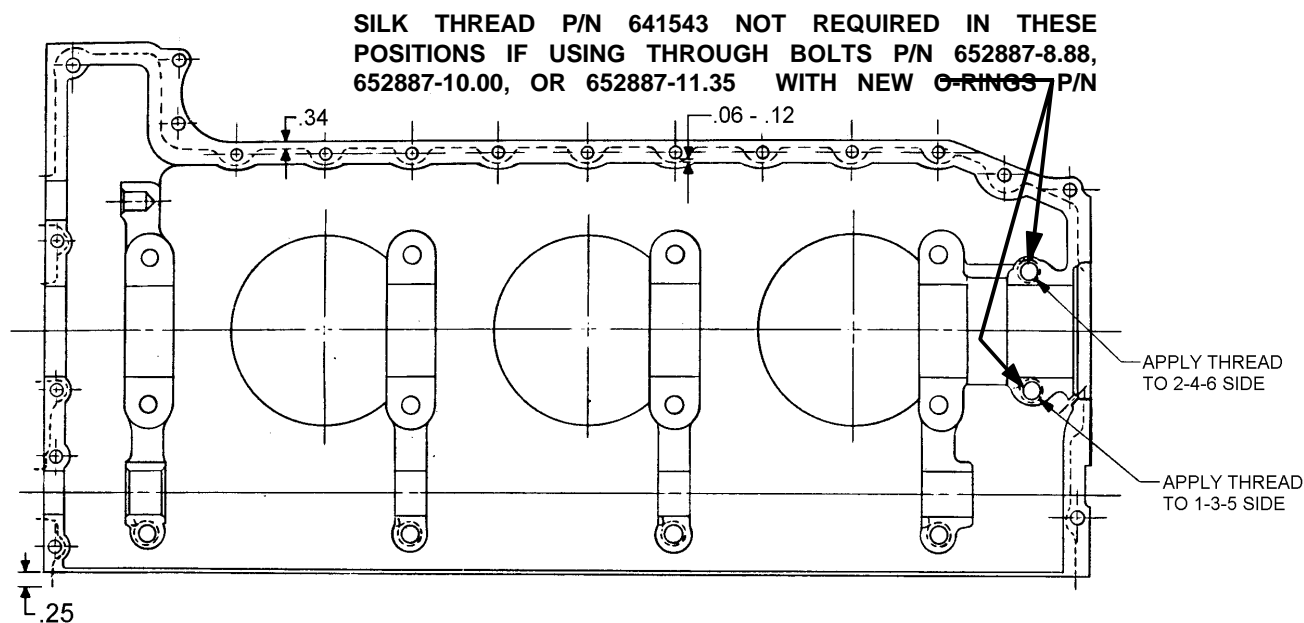

FIGURE 6. 0470, I0470, L/I0520, L/TSI0520, I0550 SANDCAST ENGINE CRANKCASE THREADING DIAGRAM
4. Apply and position grade D silk thread P/N 641543 on case halves as specified in Figure 6. Be sure free ends of thread are covered by gaskets except at the nose oil seal.